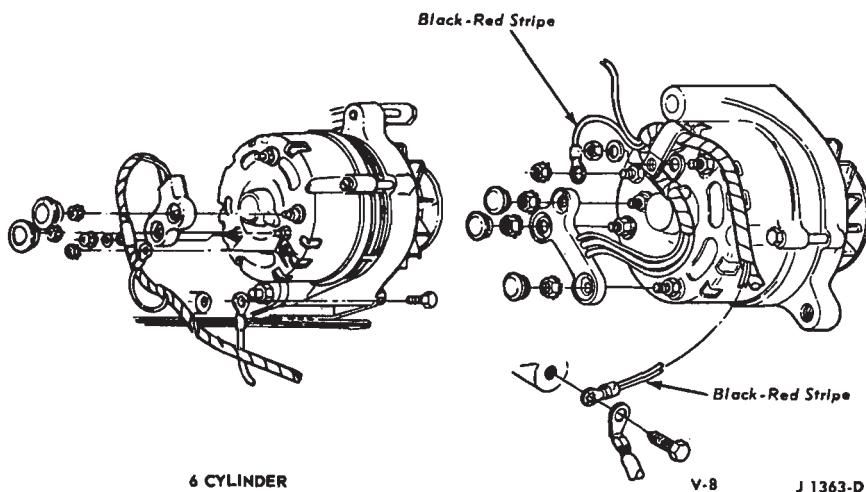

FIG. 13—Wiring Harness Connections—Typical Except 65-Ampere Alternator
1. Install the alternator connector block and plastic covers and wiring harness (Fig. 13, 14 or 15). Position the alternator to the engine, and install the alternator mounting bolt finger-tight and spacer if used.